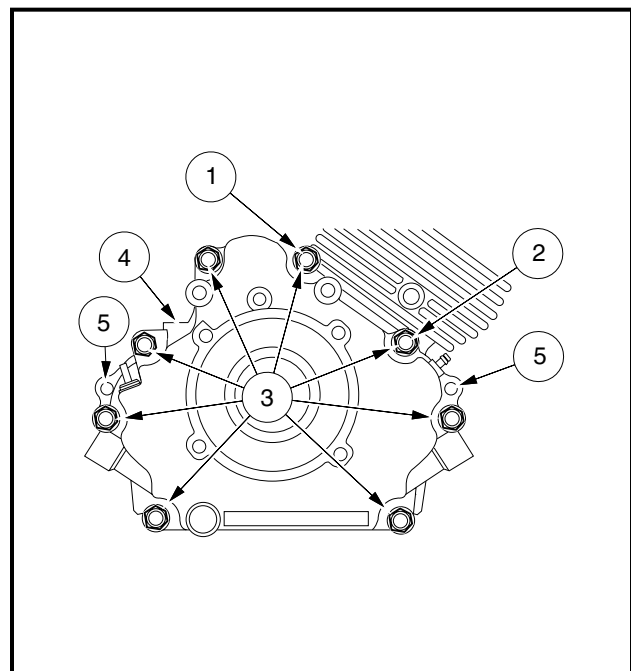

Figure 3-37 Crankcase Cover
2. Remove nuts and clamps at two-ended bolts (1 and 2) (**Figure 3-37, Page 3-20**)
3. Remove eight bolts (3) and remove the crankcase cover (4) (**Figure 3-37, Page 3-20**). **See following NOTE.**